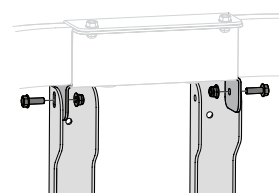

Figure 8
- Working from outside-in, secure mounting plate/strut bracket assembly to keeper bracket with two hex head screws (710-1238) and two lock nuts (712-04063). See Figure 8.